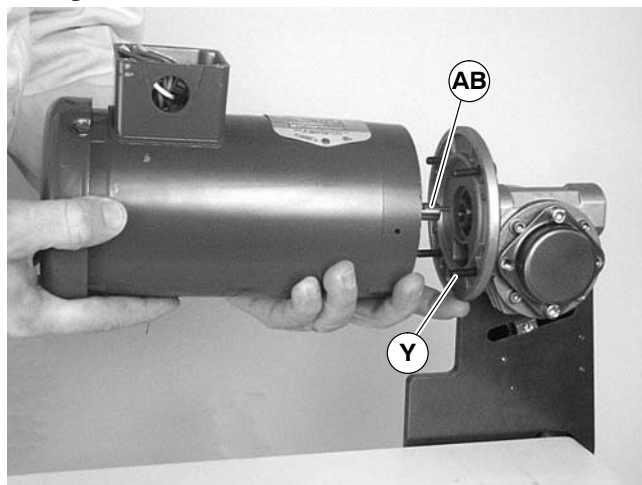

Figure 30
5. With key (AB of Figure 30) in keyway, slide motor and gear reducer together. Install screws (Y) and tighten.